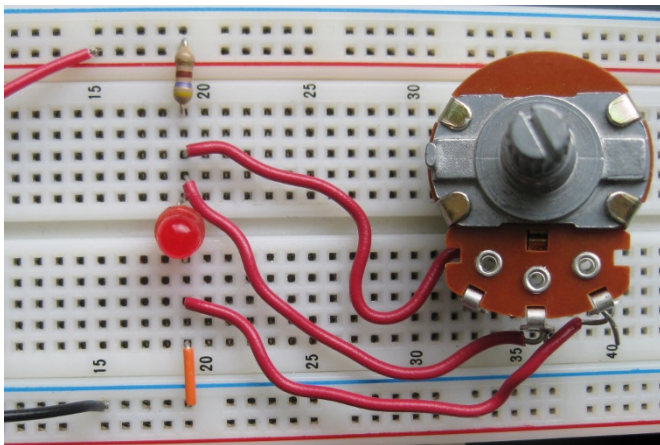

Figure 9-12: By turning the pot's knob, you vary the voltage across the LED. When the LED voltage exceeds about 2 V, the LED turns on.
2. Build the circuit, using Figure 9-12 as your guide.